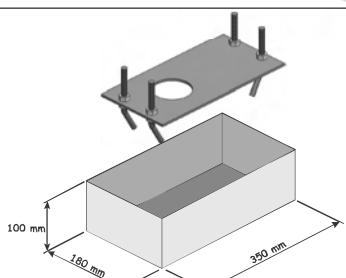

Fig. 7
- Make a foundation plinth as in Fig. 7 and wall the foundation plate, providing one or more sheaths for routing the electrical cables. Using a spirit level, check if the plate is perfectly level. Wait for the cement to set.